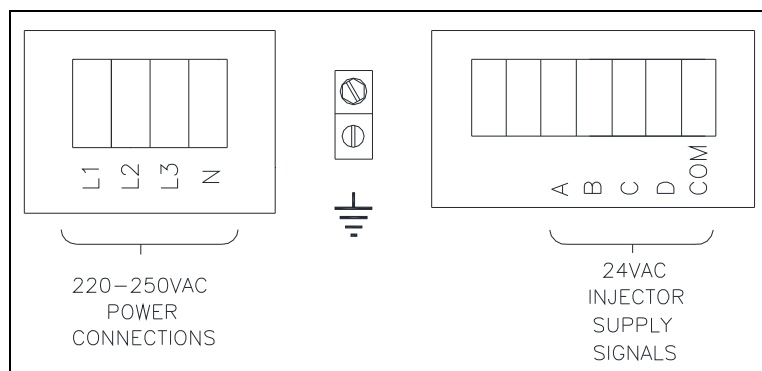

Figure 1-5: Electrical Connections and Chemical Supply Signals
- 1.7.1.2 Remove the rear panel near the upper left corner of the washer and locate the power terminal block near the back of the control compartment. Connections are as shown in Figure 1-5.